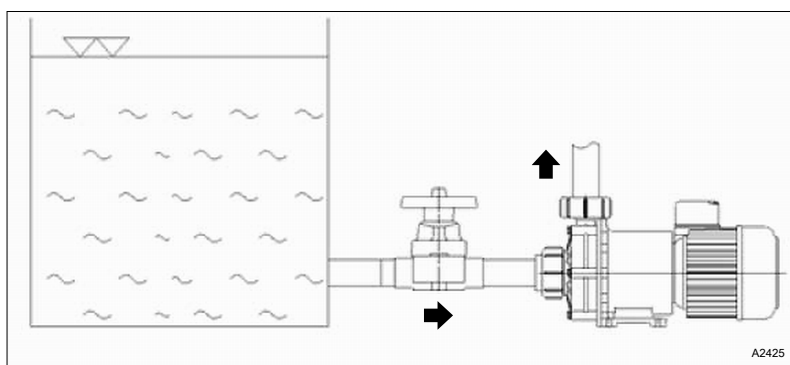

Fig. 5: Installation example
2. ➤ The pump is not self-priming and needs a feed. Assemble the pump so that the medium to be pumped flows automatically to the pump, see Fig. 5.